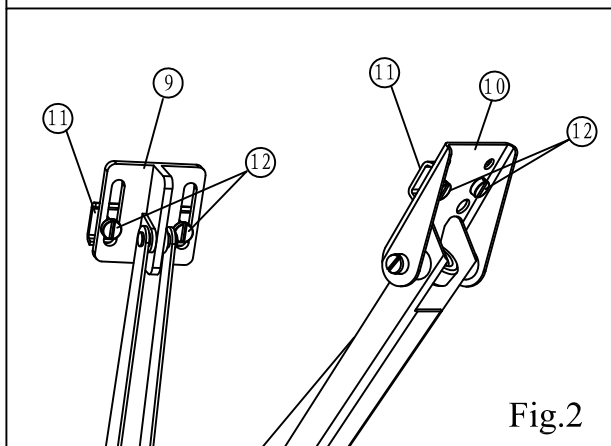
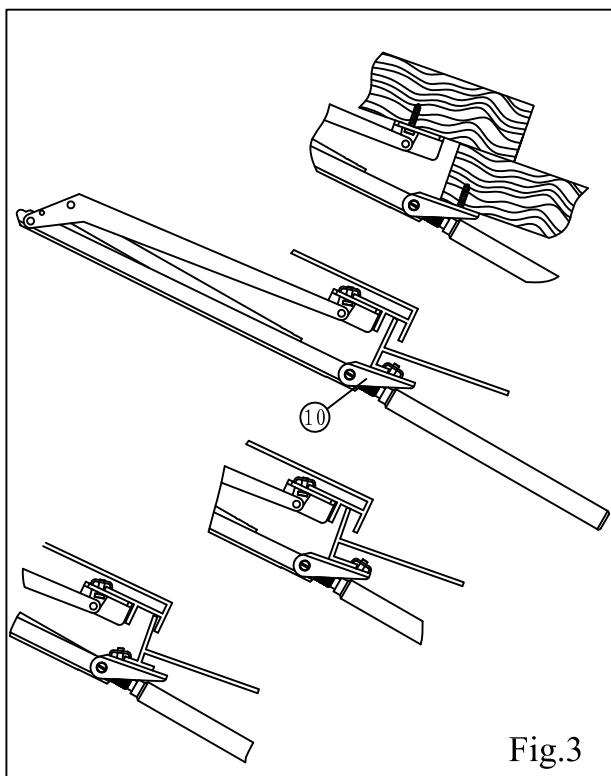

Fig.2
Fig.3
2. Use the screws (12) to loosely fix two clamps (11) respectively to the window bracket (9) and frame bracket (10). See fig.2. Make sure the upper edge of the frame bracket is close to the edge of the window frame. If it is wooden greenhouse, the window and frame brackets can be screwed directly onto the woodwork. See fig.3.